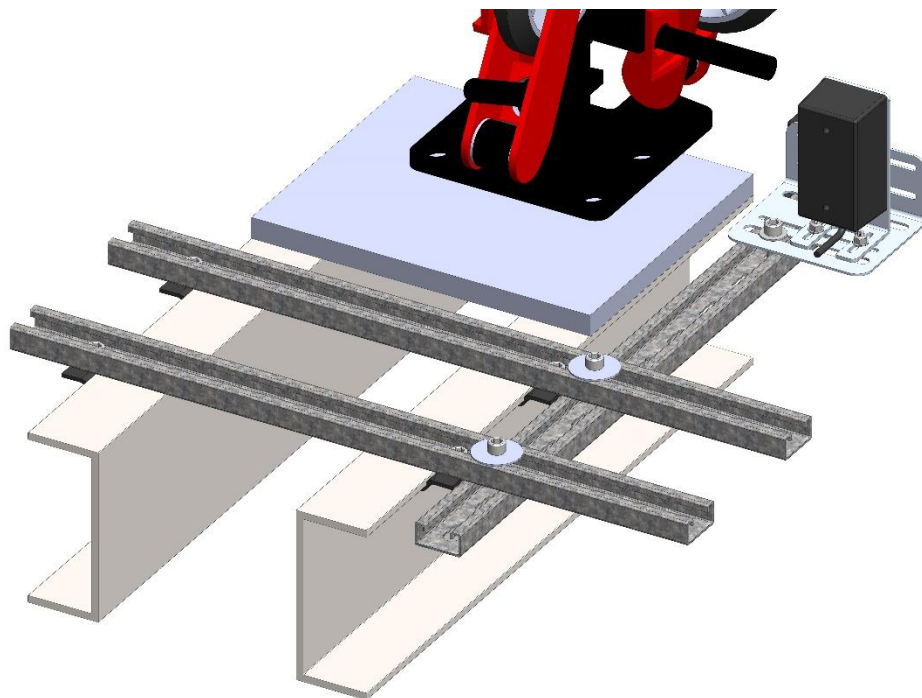

Figure 8: Alternate Unistrut installation
- Space permitting, the Sensor Array Shelf may be installed on top of the C-channel beams as shown in figure 8.